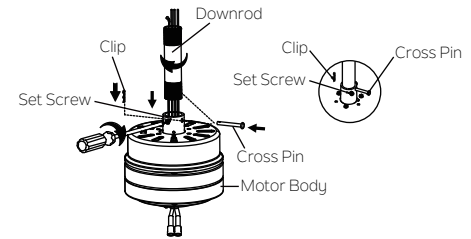

Fig. 7
**Step 3.** Loosen the two set screws and remove the clip and cross pin from the top coupling of the motor body. Carefully feed the fan wires and safety cable up through the downrod. Thread the downrod onto the motor coupling until the cross pin holes are aligned. Next, replace the cross pin and clip, and tighten both set screws. (Fig. 7)